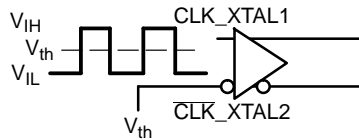

Figure 3. Differential Input Driven Single-Ended
**CRYSTAL INPUT DRIVEN SINGLE-ENDED (REFMODE = 1) (see Figure 3 and 5) (Note 9)**